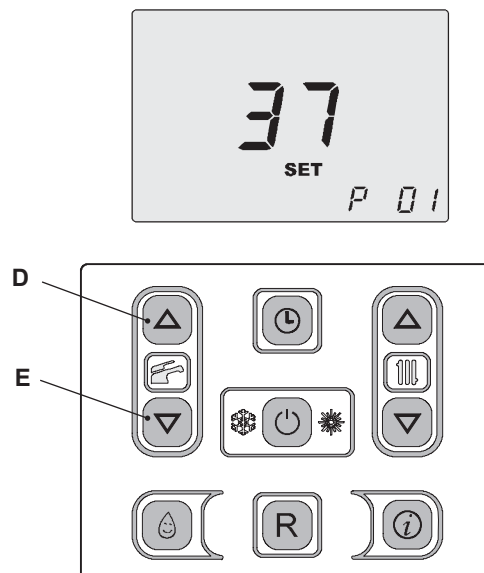

Figure 9.7
- 2 To change the parameters press c.h. set keys (D or E Figure 9.7) see also Tab 9.1.